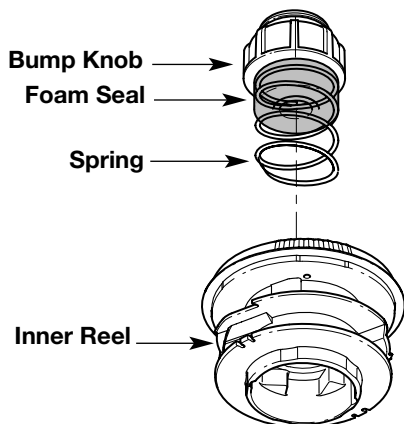

Fig. 20
1. Turn the Bump Knob counterclockwise and remove the bump knob, spring and foam seal (Fig. 20).
2. Pull out the bump knob, spring and foam seal (Fig. 20).
7. Place the bump knob, spring and foam seal into the inner reel (Fig. 20).